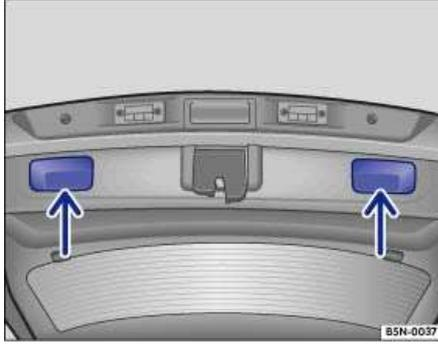

Fig. 27 Rear hatch interior trim with recessed handles for closing.
- Take hold of one of the recessed handles in the rear hatch interior trim ⇒ Fig. 27 (arrows) ⇒ .